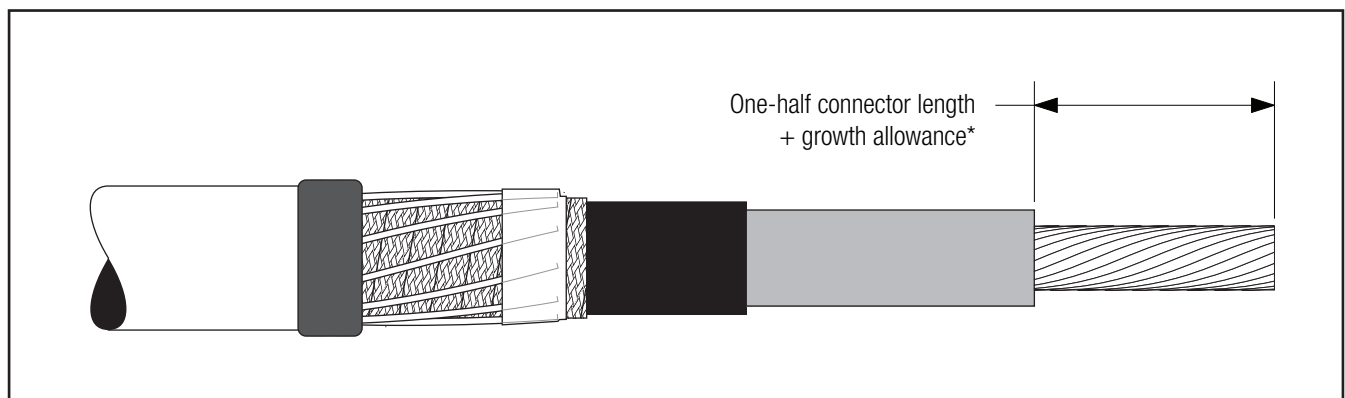

Figure 9
3.3 If using a crimp type connector, remove cable insulation for 1/2 connector length plus an allowance* for increases in connector length due to crimping. Insulation removal length shall not exceed 2 1/4" (57 mm) from conductor end. **Do not install connector now** (*Figure 9*).